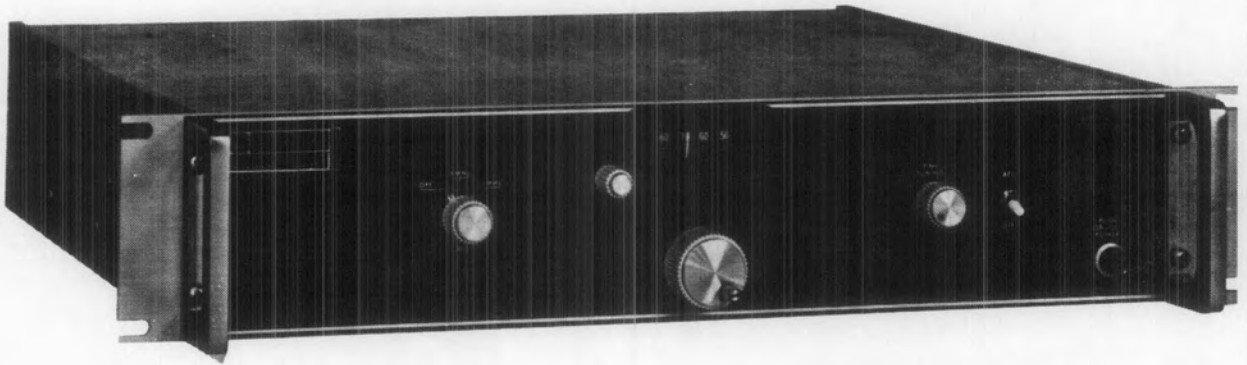

Figure 1-1. Type WJ-9080A Tuner, Front View
1.2.1 The WJ-9080A Tuner is designed to mount into a standard 19 inch equipment rack. The main chassis is constructed of aluminum. Ten of the chassis elements, consisting of U1 through U6, FL1 through FL4, and attenuators AT1 through AT5 are sealed units mounted to the main chassis. Seven of the remaining twelve sub-assemblies are constructed in metal chassis and the five remaining are constructed on plug-in printed circuit cards. For dimensions and weight refer to Table 1-1. Figure 1-1 is an oblique view of the unit and Figures 5-1 through 5-4 give overall views of the unit.